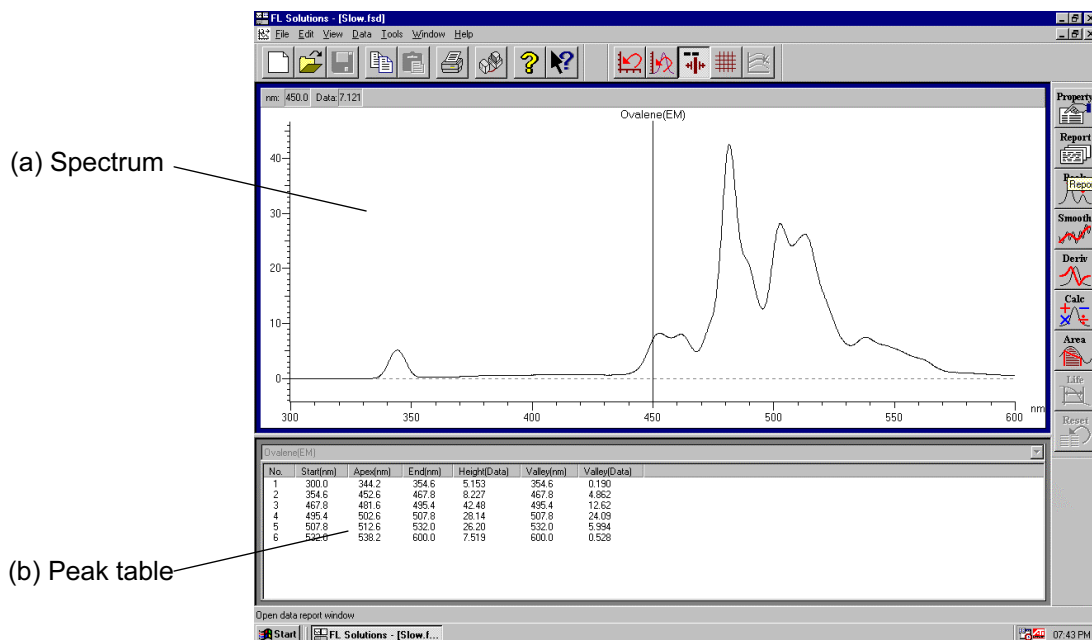

Fig. 2-12 Data Processing Window (wavelength scan)
- (4) When automatic saving is set, data will be saved after completion of measurement. Upon opening its file, a data processing window will appear as in Fig. 2-12. Unless automatic saving is set, select the Save As command from the File menu and save data in file.
- (1) Select the Print command from the File menu. Or click the  print button on the toolbar. The field active on the data processing window (e.g., (a) in Fig. 2-12) will be printed. What is displayed by clicking the Print Preview command in the File menu will be printed.